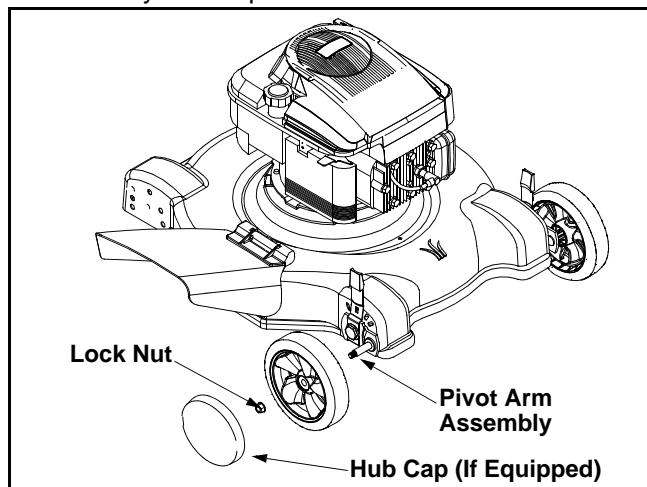

Figure 6
- Remove lock nut from pivot arm assembly, slide wheel onto pivot arm assembly and secure with lock nut. See Figure 6.